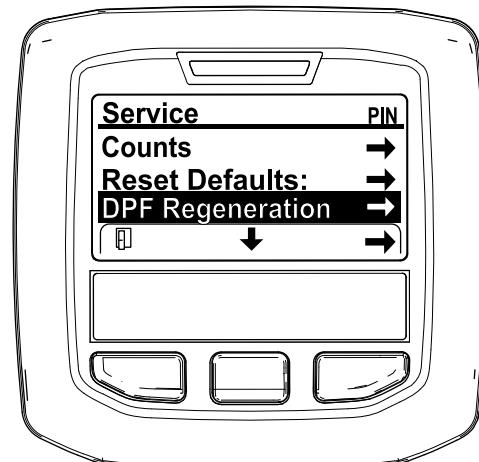

Figure 49
- In the SERVICE MENU, press the middle button until the DPF REGENERATION options displays, and press the right button to select the DPF REGENERATION option (Figure 49).